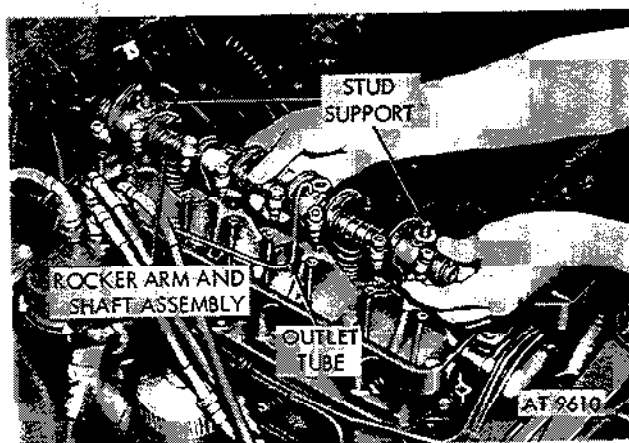

Figure 2-63. Rocker arm and shaft assembly removal.
(15) Remove two bolts, two lockwashers, one flat washer and one oil outlet tube and bracket which were loosened in (12) above. Remove oil outlet tube from shaft assembly (fig. 2-63).
(16) Lift rocker arm and shaft assembly from support studs (fig. 2-63).